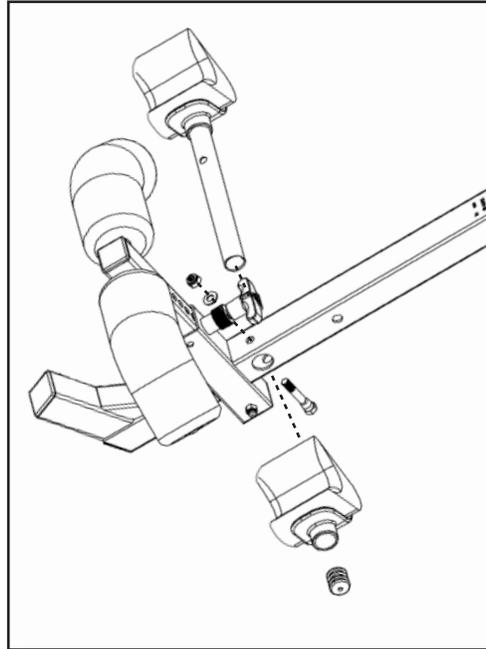

Figure 12
- With the rounded corners of the rear foam Heel Cup facing down, insert the Rear Bar with one Heel Cup (IA-1113) into the large hole at the bottom of the Main Shaft (Figure 12).
- Slip the other Heel Cup (rounded corners down) onto the Rear Bar and push the Rubber Plug (F5-1056) into the Rear Bar (Figure 12).